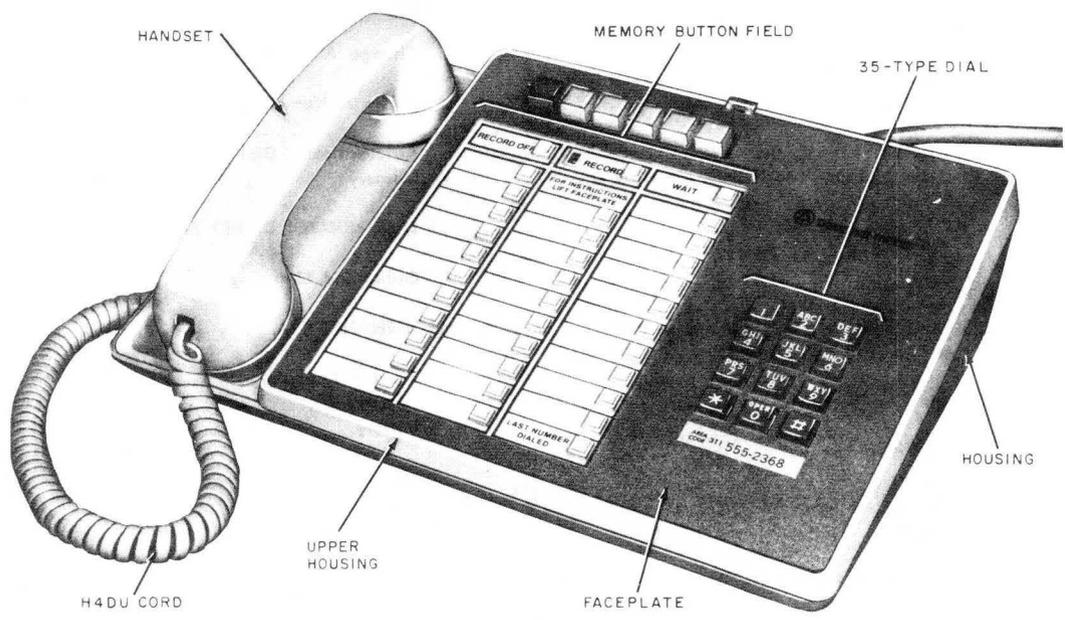

Fig. 1—2872A1M (MD) or 282A2M Telephone Set
1.01 This section contains identification, installation, connections, operation, and maintenance information on the 2872A1M (MD) or 2872A2M telephone set (TOUCH-A-MATIC service) (Fig. 1).
- Show 2872A1M telephone set (MD)
- Revise Fig. 1 through 5, 7 through 12, and 14